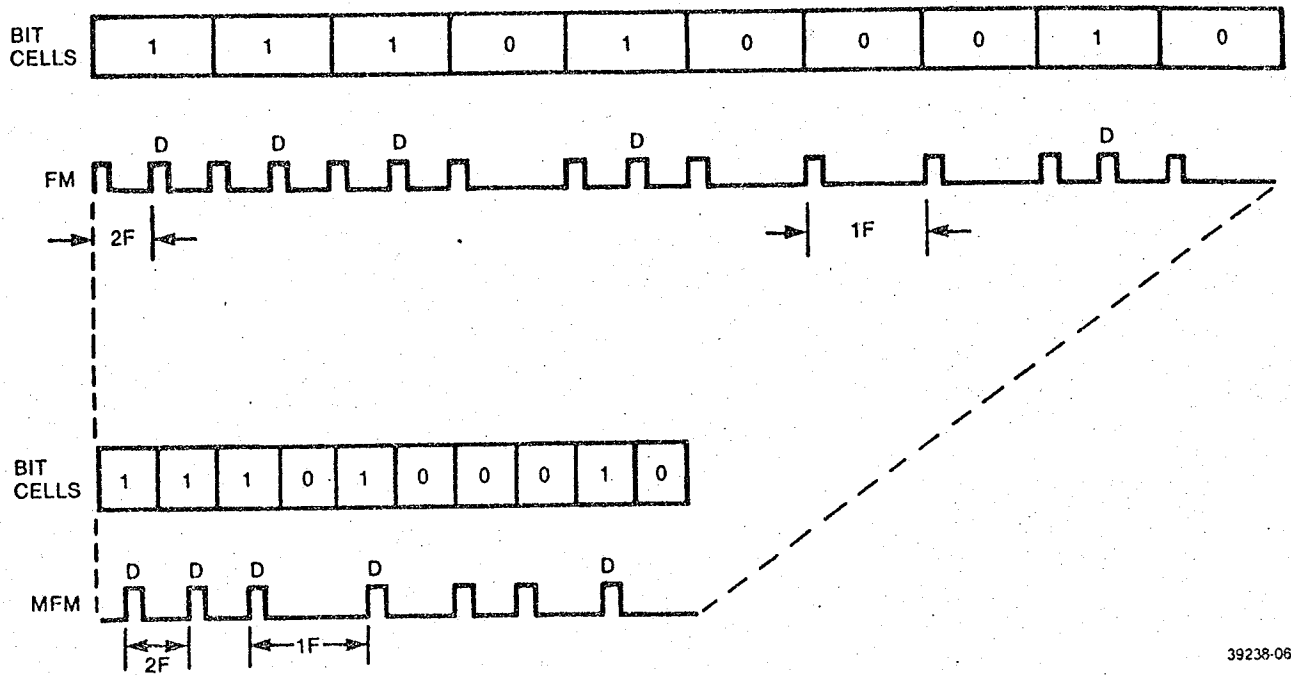

FIGURE 1-7. FM AND MFM CODE COMPARISONS
The encoding scheme of the recorded data can be either FM or MFM. FM encoding rules specify a clock bit at the start of every bit cell and a data bit at the center of the bit cell if this cell contains a one data bit. (see figure 1-7). MFM encoding rules allow clock bits to be omitted from some bit cells with the following prerequisites:
- The clock bit is omitted from the current bit cell if either the preceding bit cell or the current bit cell contains a one data bit. See figure 1-7.